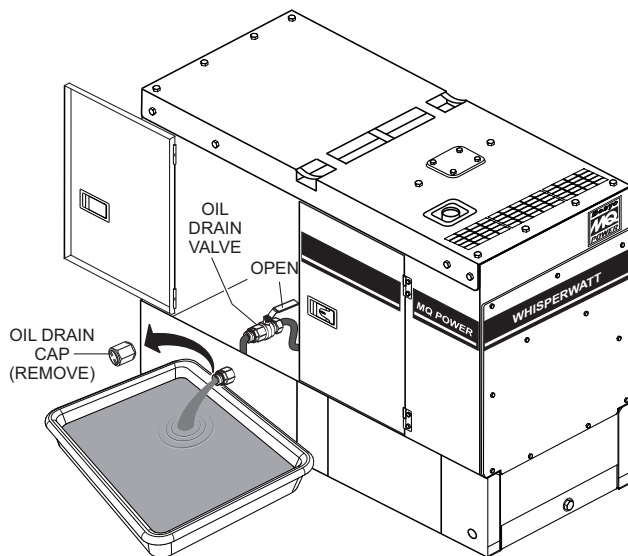

Figure 69. Draining Engine Oil
4. Remove the **oil drain cap** (Figure 69).
5. Place the **oil drain valve** in the open position (Figure 69) and allow the oil to drain into a suitable container.